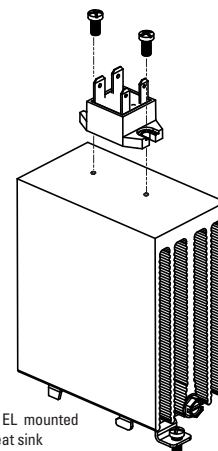

fig.1 EL mounted on heat sink
- EL mounting slots have a diameter of 0.16 in (4.0 mm). Two screws are needed (not included) to mount the EL onto heat sink (See fig. 1). recommended screw size is 8-32 (UNC standard) or M4 (metric).